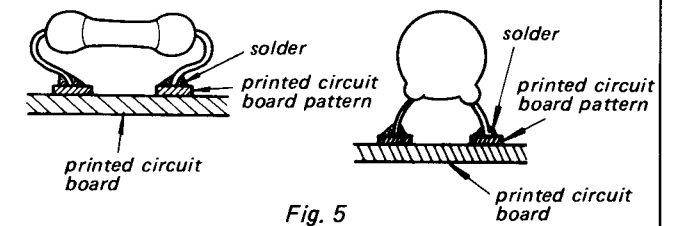
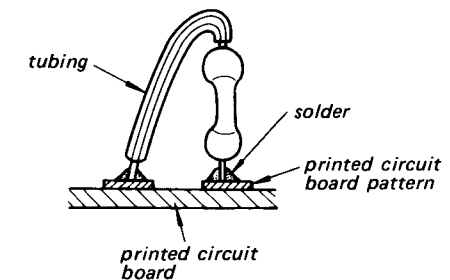

Fig. 5
Fig. 6
4. Use lead type resistors or capacitors to replace the MELF components. These replacements may be mounted either with short leads (see Fig. 5), or by covering a lead with tubing (see Fig. 6).